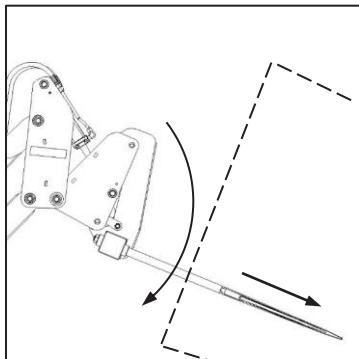

Fig. 2
- In cases where hay bales are being transferred to other equipment (such as hoppers, shredders or feed mixers), the head of the Uniloader® should be tilted downwards to assist with the ejection of the hay bale (Fig. 2).
- In gevalle waar die bale na ander toerusting oorgeplaas word (soos bakke, kewers of voermengers), moet die kop van die Uniloader® afgaarts gekantel word om met die aflaai van die baal te help (Fig. 2).